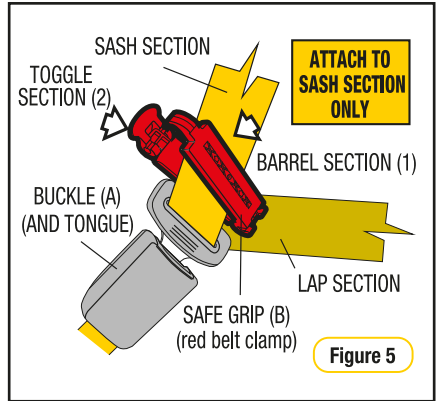

Figure 5
**Step 3:** Push down on the base of the restraint (with knee or hand) whilst pulling the sash section of the vehicle belt firmly up in the direction of the yellow arrow in Figure 4. (This will tighten the lap belt across the seat base). Whilst continuing to pull the sash section up, attach the Safe Grip red belt clamp on the sash section ONLY as close as possible above the buckle tongue assembly. (Refer to Figure 5 and Instruction for installing the Safe Grip red clamp below)
To install the **Safe Grip** (red belt clamp), open it and clamp the “sash section” **ONLY** of the vehicle seat belt by closing the barrel section of the red belt clamp in the direction of arrow 1 in Figure 5 and then locking with the toggle section by pushing in the direction of arrow 2 in Figure 5 when the **Safe Grip** (red belt clamp) is secured in place, the lap section is now tightly holding your child restraint in place, independent of the sash section. The **Safe Grip** (red belt clamp) must be removed when the child restraint is not installed to allow other users to use the seat belt as a lap/sash seat belt. Always keep the **Safe Grip** (red belt clamp) in pocket provided when not in use.